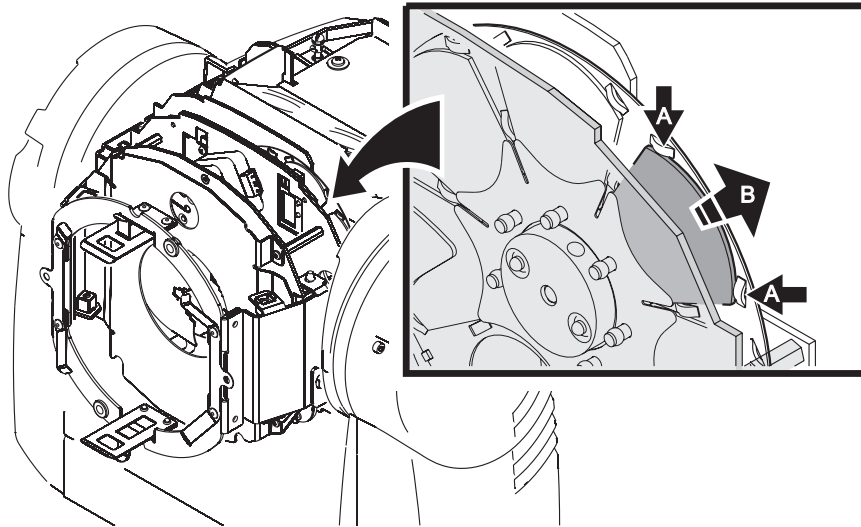

Figure 6
7. A set of six beam effect gobos (P/N 62420250) is supplied in the Kit. See Figure 6. To install a beam effect gobo, remove a color filter from the color wheel by pressing it gently away from its retaining tabs **(A)** and lifting it carefully out of the color wheel **(B)**.